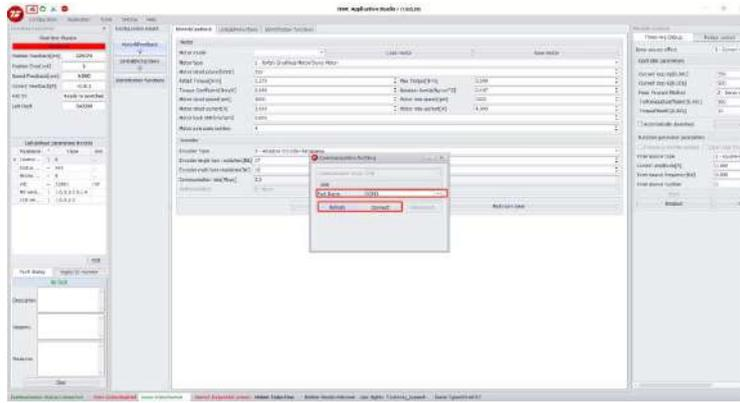

Figure 4-2 Open communication interface
- 4) Click the "Connect" icon to bring up the port and select the port number, as shown in Figure 4-2.